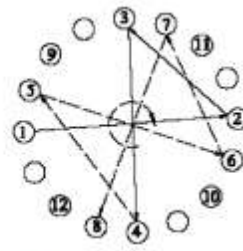

Fig. 5 Sequence of Tightening
- Tighten the other bolts in the sequence shown Fig.5 the same way.